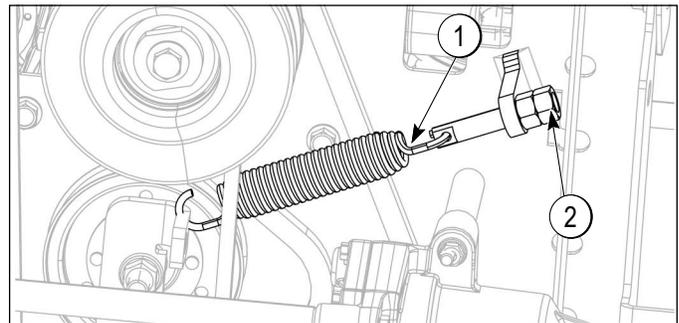

Figure 6-5
Pump belt spring tensioner (1) is shown in Figure 6-5.
5. Using a 3/4 in wrench, loosen the top jam nut (2). Tighten the adjustment nut to increase the belt tension. Once desired drive belt tension is achieved, tighten the jam nut securely.